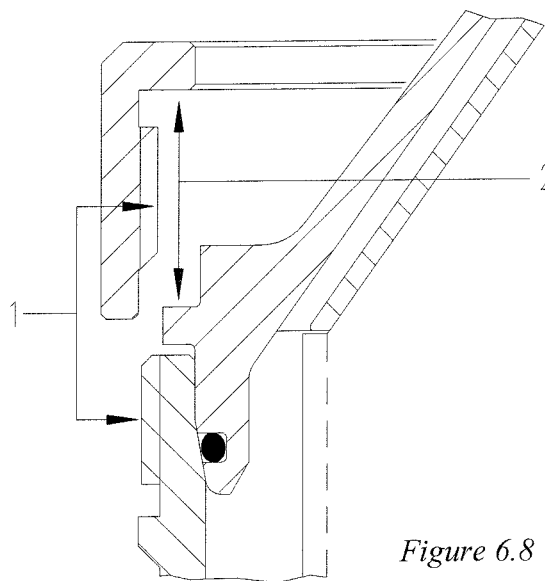

Figure 6.8
11) Smear antiscuff grease on threads of bowl body and big lock ring (fig. 6.8 - part 1) and on contact surfaces between bowl hood and big lock ring (fig. 6.8 - part 2).